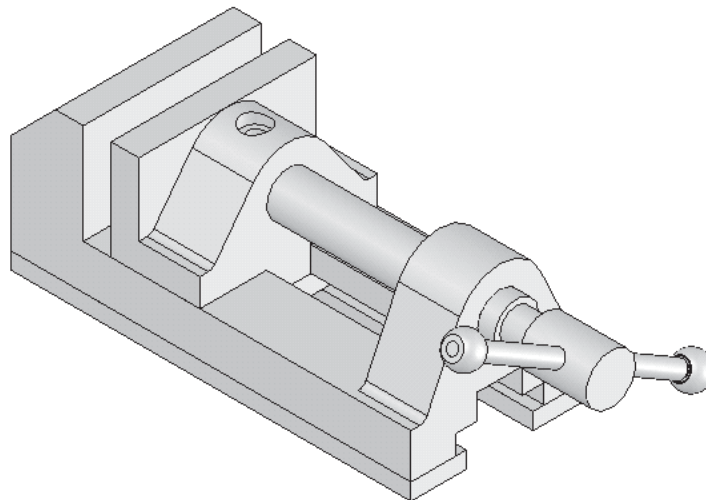

Figure 11-71 Assembly after assembling the Vice Body, Vice Jaw, Jaw Screw, Screw Bar, Clamping Plate, Base Plate, and Bar Globes
6. Similarly, assemble the Screw Bar, Support Plates, and Bar Globes. The assembly, after assembling all these components, is shown in Figure 11-71.